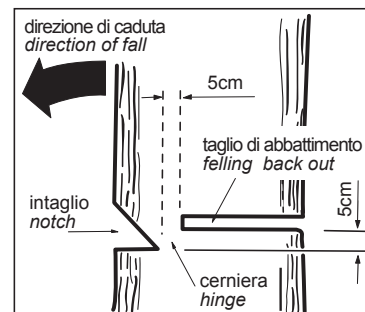

FIG. 1
- After this operation, make the cut on the other side of the tree at about 5 cm above the height of the face cut (Fig. 1).